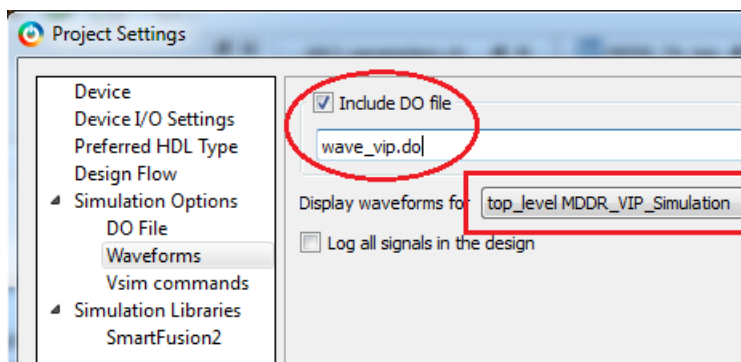

Figure 28 • Waveforms Settings
- Change the default DO file name to **wave_vip.do** file in **Project > Project Settings > Simulation Options > Waveforms**. Figure 28 shows the Waveforms settings.